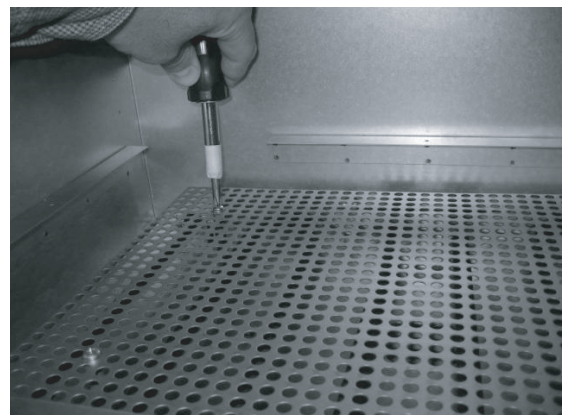

FIG.2
2. For GC models it may be necessary to remove the perforated heat shield (4 screws) to gain access to the thermostat's sensing bulb & capillary. Earlier AF models incorporated the bulb and capillary above the heat shield. With a pencil or marker, circle the location of each screw head on the shield to aid in reassembly. Some earlier models did not incorporate heat shields. (FIG. 2)